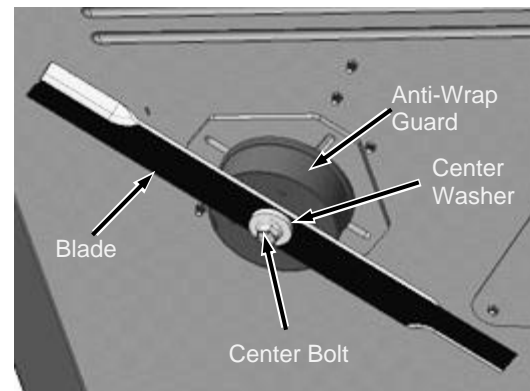

Figure 60
4. Remove Center Bolt by using a 1 1/8 in Wrench. As bolt loosens, Center Washer, Anti-Wrap Guard, and Blade will also loosen. **(Figure 60)**